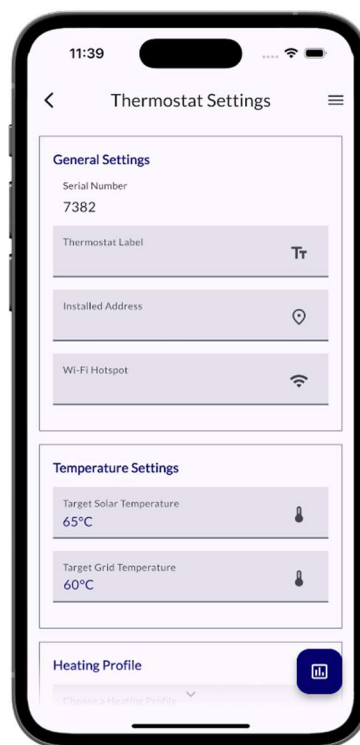

Figure 4.11 Settings screen
36. The application should display the “**Thermostat Settings**” screen (**Figure 4.11**)